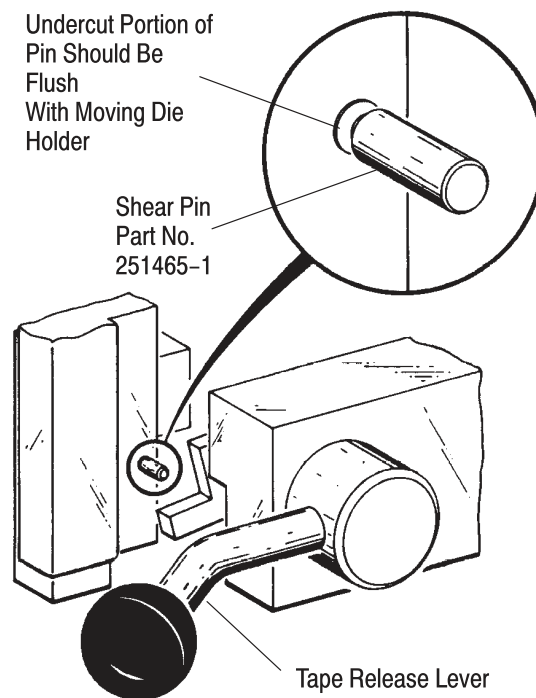

Figure 29
8.4. Shear Pin Replacement (Figure 29)